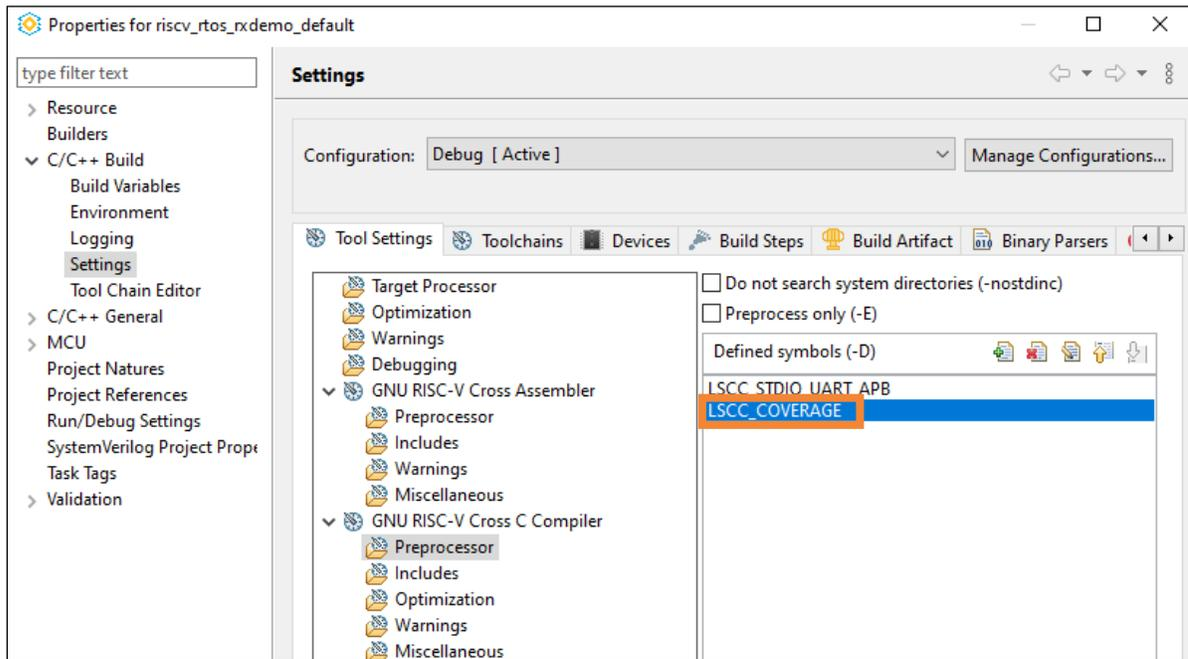

Figure 6.10. LSCC\_COVERAGE Symbol
3. Select **GNU RISC-V Cross C Compiler > Preprocessor**. Add the defined symbol, LSCV\_COVERAGE (Figure 6.10).